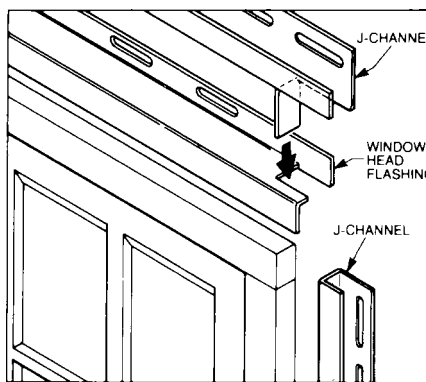

FIG. 11 Installation of Door and Window Trim
9.2.3.2 Across the top install head flashing (optional) and J-channel that extends to the outer edges of the exposed legs of the side J-channels. Cut out each end of the head flashing to match the contour of the side J-channels and fasten in place. Cut along the bends of the J-channel in $\frac{3}{4}$ in. (19 mm) from each end, bend down the resultant tabs of the web, insert them into the side J-channels and fasten in place as shown in Fig. 11.